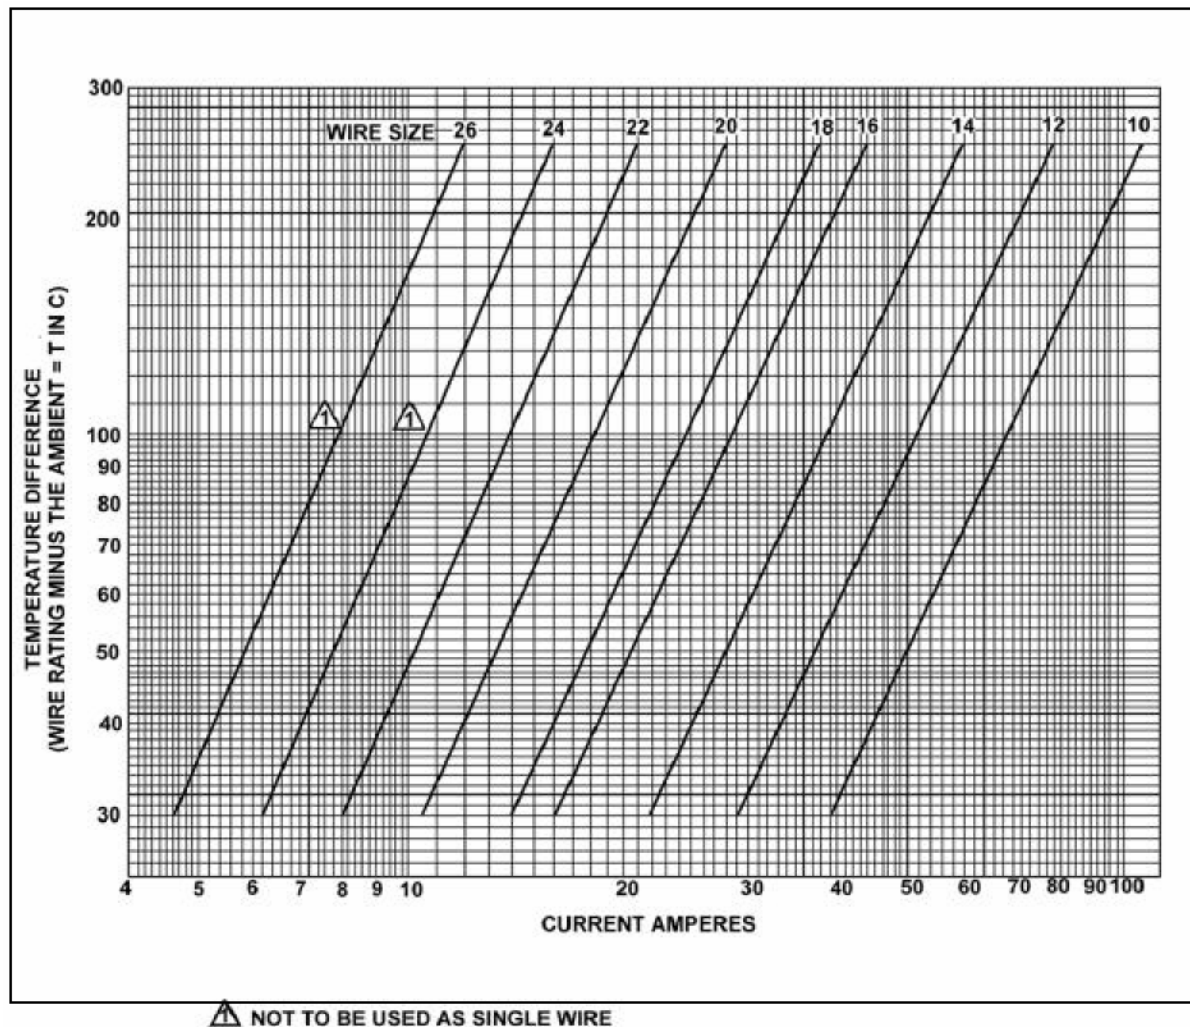

FIGURE 11-4a. Single copper wire in free air.
STEP 1: Assuming that the recommended load bank testing described in paragraph 11-66d(5) is unable to be conducted, then the estimated calculation methods outlined in paragraph 11-66d(6) may be used to determine the estimated maximum current (I_{max}). The #14 gauge wire mentioned above can carry the required current at 50 °C ambient (allowing for altitude and bundle derating).
(6) Use figure 11-4a to calculate the I_{max} a #14 gauge wire can carry.
(7) Find the temperature differences